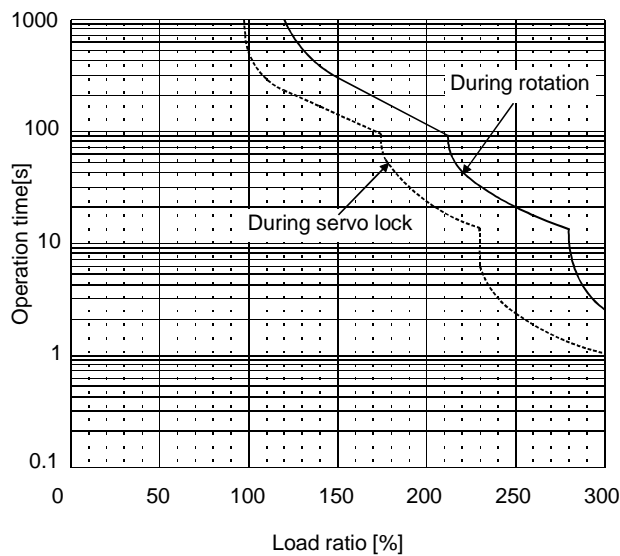

Fig 11.1 Electronic thermal relay protection characteristics 1
An electronic thermal relay is built in the servo amplifier to protect the servo motor and servo amplifier from overloads. The operation characteristics of the electronic thermal relay are shown Fig 11.1 to 11.3. Overload 1 alarm (50) occurs if overload operation performed is above the electronic thermal relay protection curve shown below. Overload 2 alarm (51) occurs if the maximum current flew continuously for several seconds due to machine collision, etc. Use the equipment on the left-hand side area of the continuous or broken line in the graph.